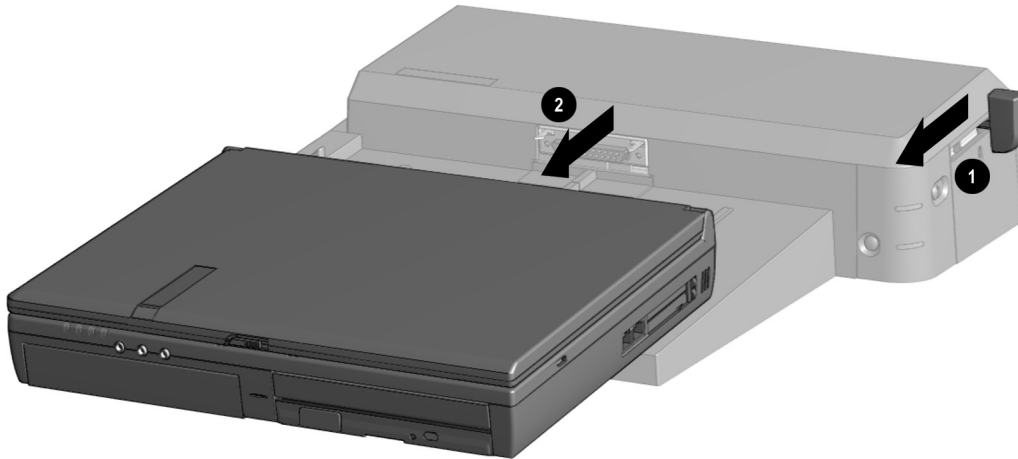

Figure 5-4. Undocking the Computer from the Compaq Convenience Base
3. Lift the docking lever and slide it forward **1**. The computer separates from the docking connector on the Compaq Convenience Base **2** (Figure 5-4).